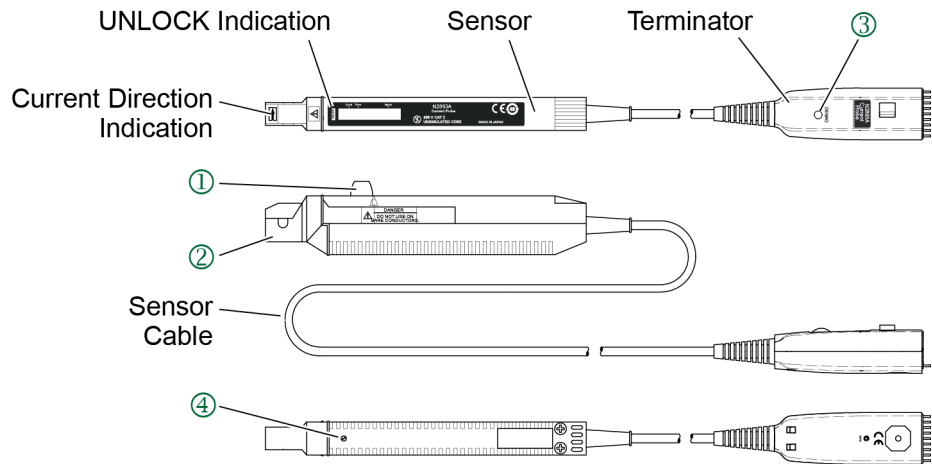

Figure 1 Probe components
- 4 Press the probe's **DEMAG** button shown in Figure 1 on page 9. A demagnetization waveform will be displayed for a short time on the channel to which the probe is connected. Wait until this waveform is no longer displayed.